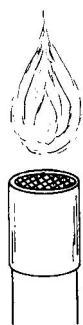

Figure 1.4
7. Too much gas pressure will cause the flame to rise away from the burner and “roar” (Figure 1.4). If this happens, reduce the gas flow by closing the gas control valve until a proper flame results.